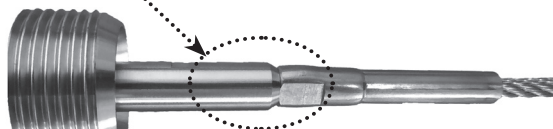
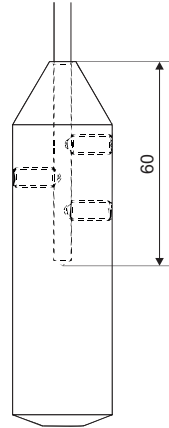

Fig. 30: The threaded connection of the electrode holder with the rope electrode
Fig. 31: Scheme of the weight for the rope electrode
1. Create your own electrode as shown on Fig. 31. The length of the electrode must be about 7 mm shorter than the dimension "E" in figure 30. The material of the electrode is recommended to be used stainless steel type 1.4404 (AISI 316 L) or similar depending on the application.
1. Heat the junction place (threaded connection) of the electrode and the electrode holder (see Fig. 31 and 33) using a heat gun at about 120-150 ° C (or 220-250 ° C for high temperature version).